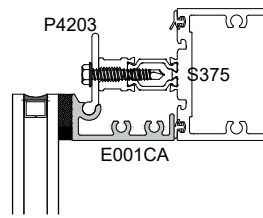

Fig. 56.2
- STEP 3: Roll head of frame toward back member support framing as shown at Fig. 56.2.
- STEP 5: Install and attach head anchor clips P4203, 12" o/c, maximum 2" from ends. See Fig. 56.2